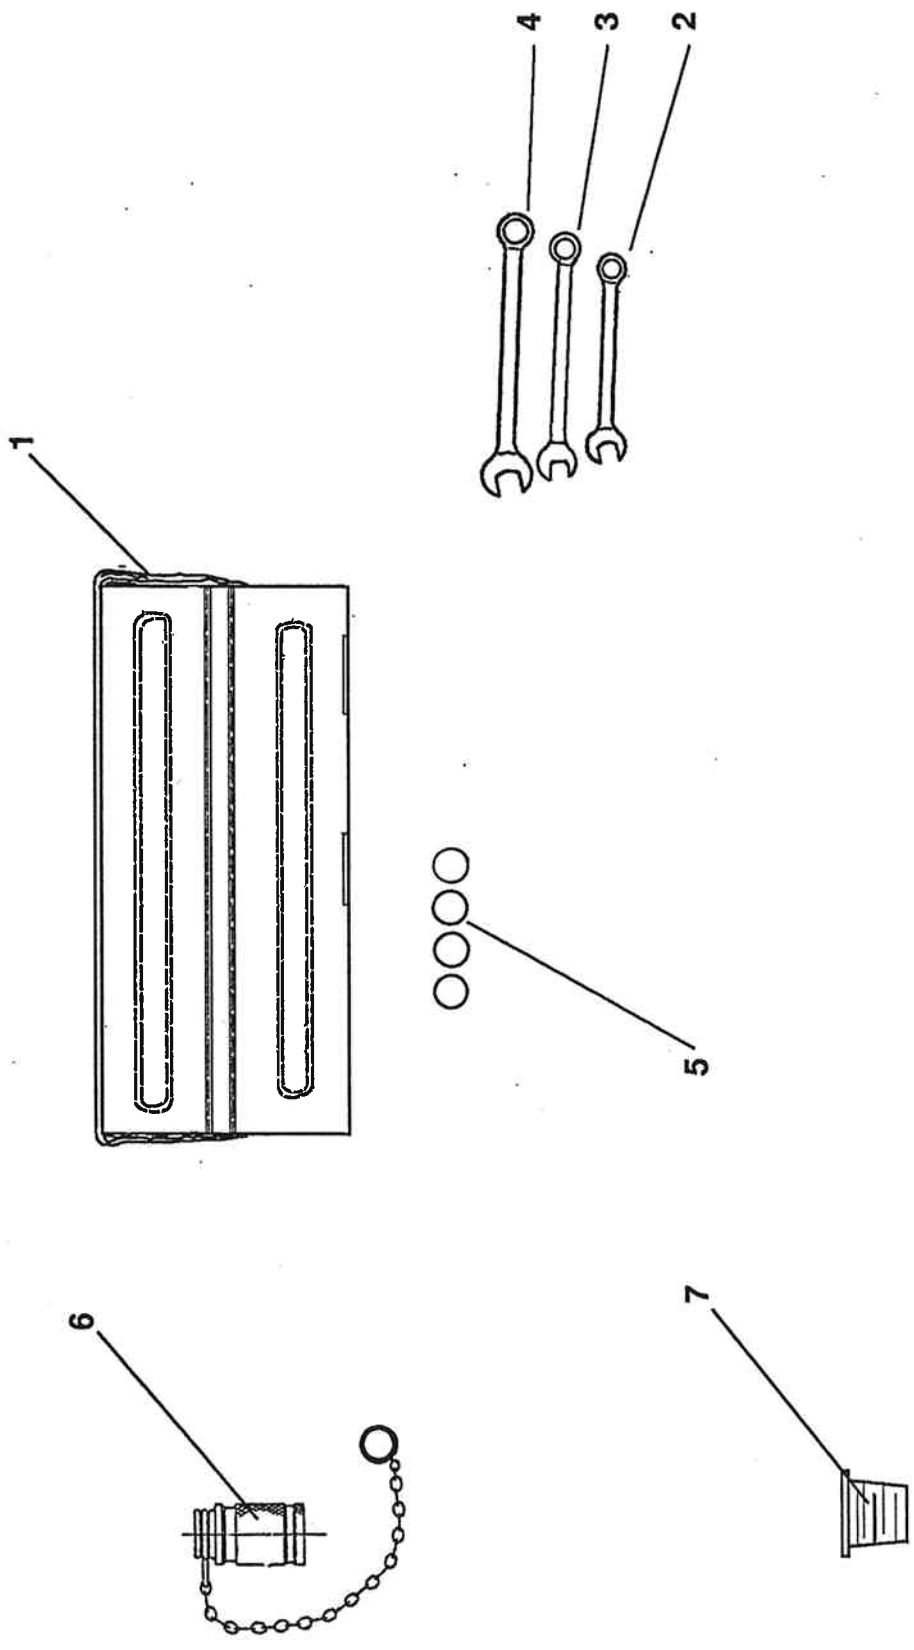

Abb. 11-9
- Tool kit with following contents (see Fig. 11-9):